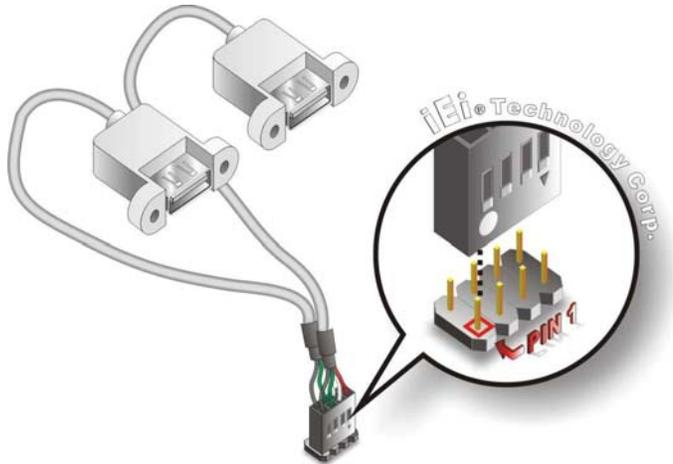

Figure 4-14: Dual USB Cable Connection
Step 3: Insert the cable connectors. Once the cable connectors are properly aligned with the USB connectors on the PM-PV-D4251/N4551/D5251, connect the cable connectors to the on-board connectors. See **Figure 4-14**.